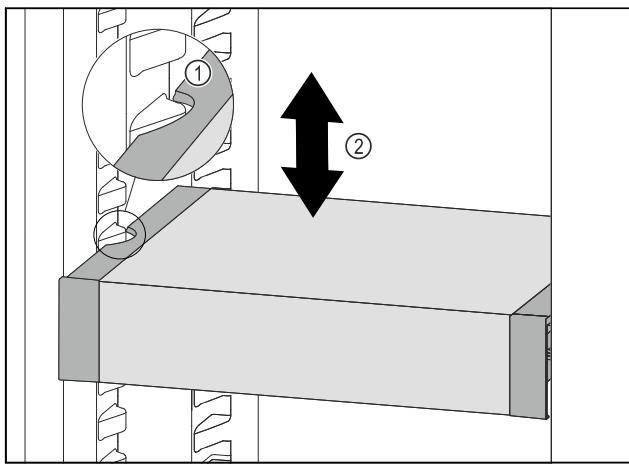

Fig. 121
- ▶ Pull VarioSafe forwards until the recesses in the side of the VarioSafe are at the level of the support rib in the refrigerator compartment. Fig. 121 (1)
- ▶ Move VarioSafe up or down in the refrigerator compartment until the desired height is reached. Fig. 121 (2)